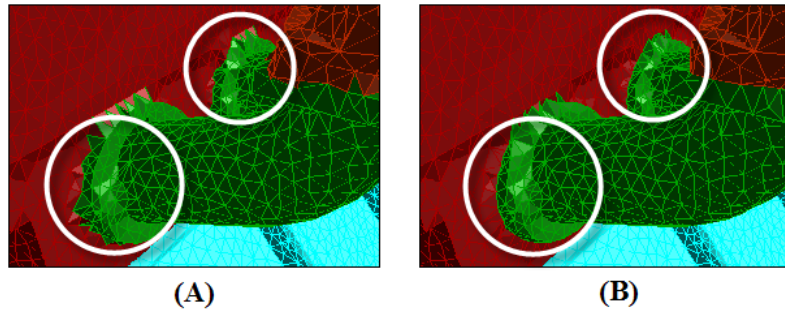

Figure 8.8.4: Wrapper Surface (A) Before and (B) After Rezoning
*The **Rezone** option allows you to smooth the boundaries of the separated zones and removes the island zones (Figure 8.8.4).*